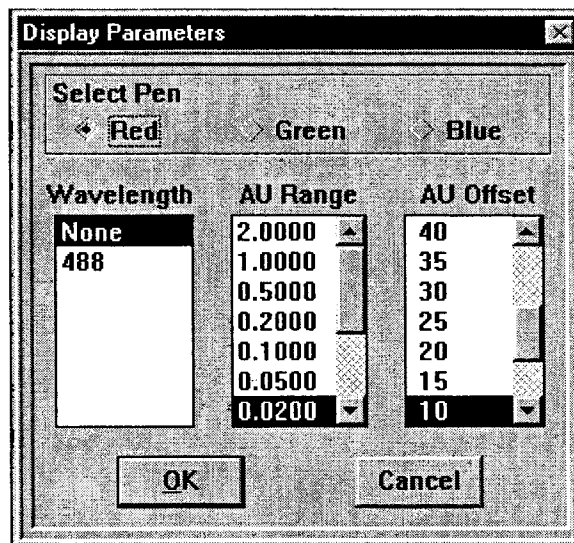

Figure 5-39 Display Parameters Screen—BioFocus 2000
Display Parameters, shown in Figure 5-39, allows you to assign pens for up to three traces. You can choose values for each pen color: wavelength, absorbance units, and baseline AU offset (-10 to 75% of full scale). Always click **Select Pen** first. Click **OK** after you have made your selections.
6. Click **Display Parameters** to bring up the screen shown in Figure 5-39. Select a wavelength, a pen color, and AU range and offset.